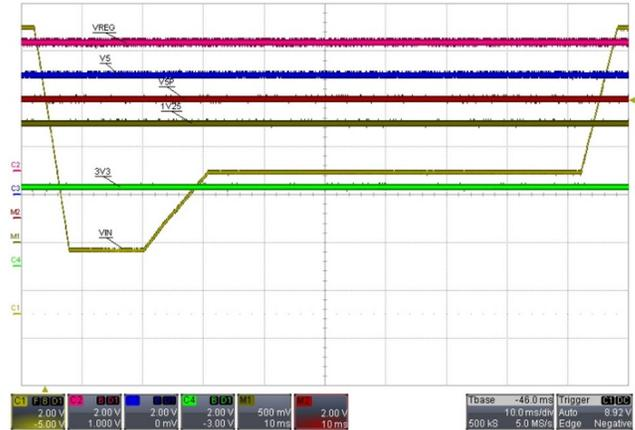
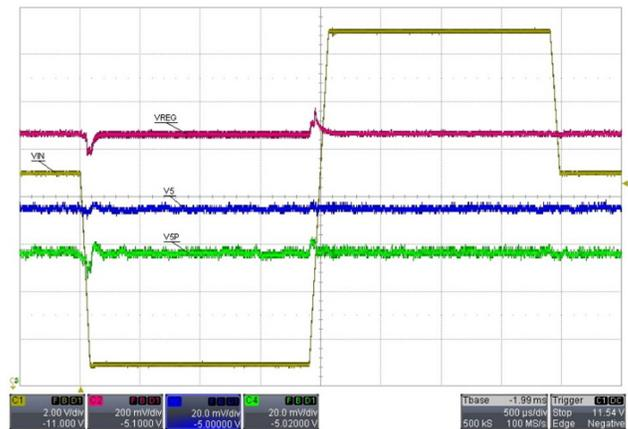
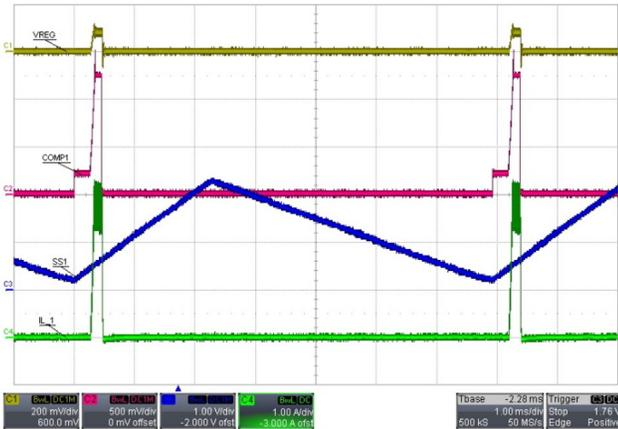

Figure 5: A4408 Buck-Boost operation at full load V_{VIN} slew rates ranging from 0.3 V/ms to 1.6 V/ms Typical of an automotive START/STOP waveform
Figure 6: A4408 Buck-Boost operation at full load V_{VIN} slew rates of 100 V/ms – V5P deviates less than 0.2%
Figure 7: Pre-Regulator Hiccup Mode Operation when VREG is Shorted to GND and C_{SS1} = 22 nF
The A4408 can maintain its outputs over a wide range of input voltages and slew rates. Actual boost performance is shown in Figure 5 and Figure 6 with voltages swinging between 2.9 and 18 V, and V_{VIN} slew rates ranging from 0.3 to 100V/ms.
6. Hiccup short circuit protection – lab measurement shown in Figure 7 and detailed timing diagram shown in Figure 5